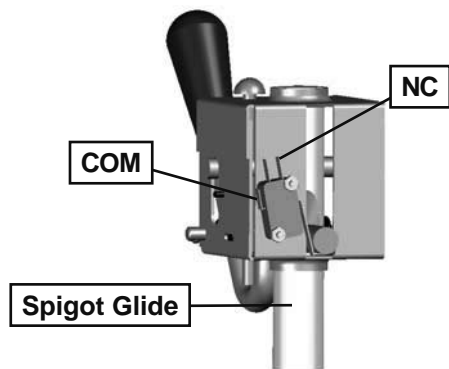

Figure 6-8 Spigot Cam Assembly
- The clicking sound should be within the first 1/2" of the spigot glide movement (Refer to Figure 6-8). If the switch does not close, an adjustment may be necessary.